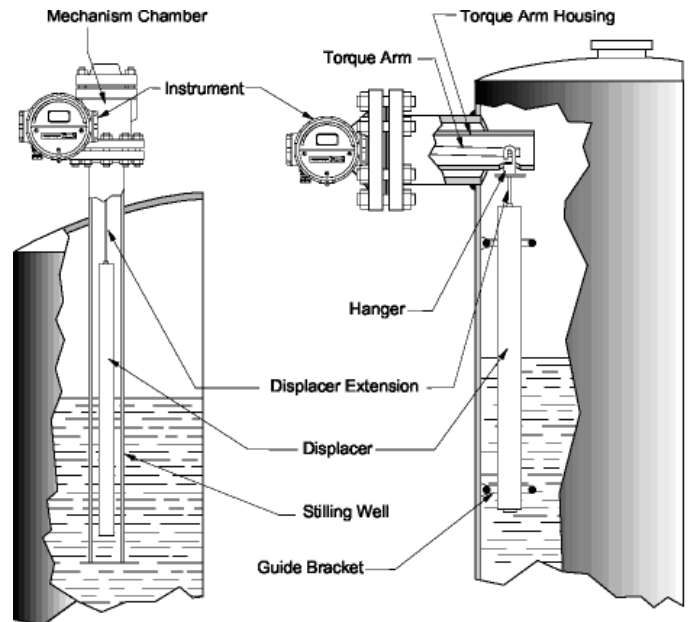

Figure 5
a. Type 12403 Top Flange Mounted Instrument (Figure 5)
4.2.2.2 Stilling well for type 12403 (Figure 5)